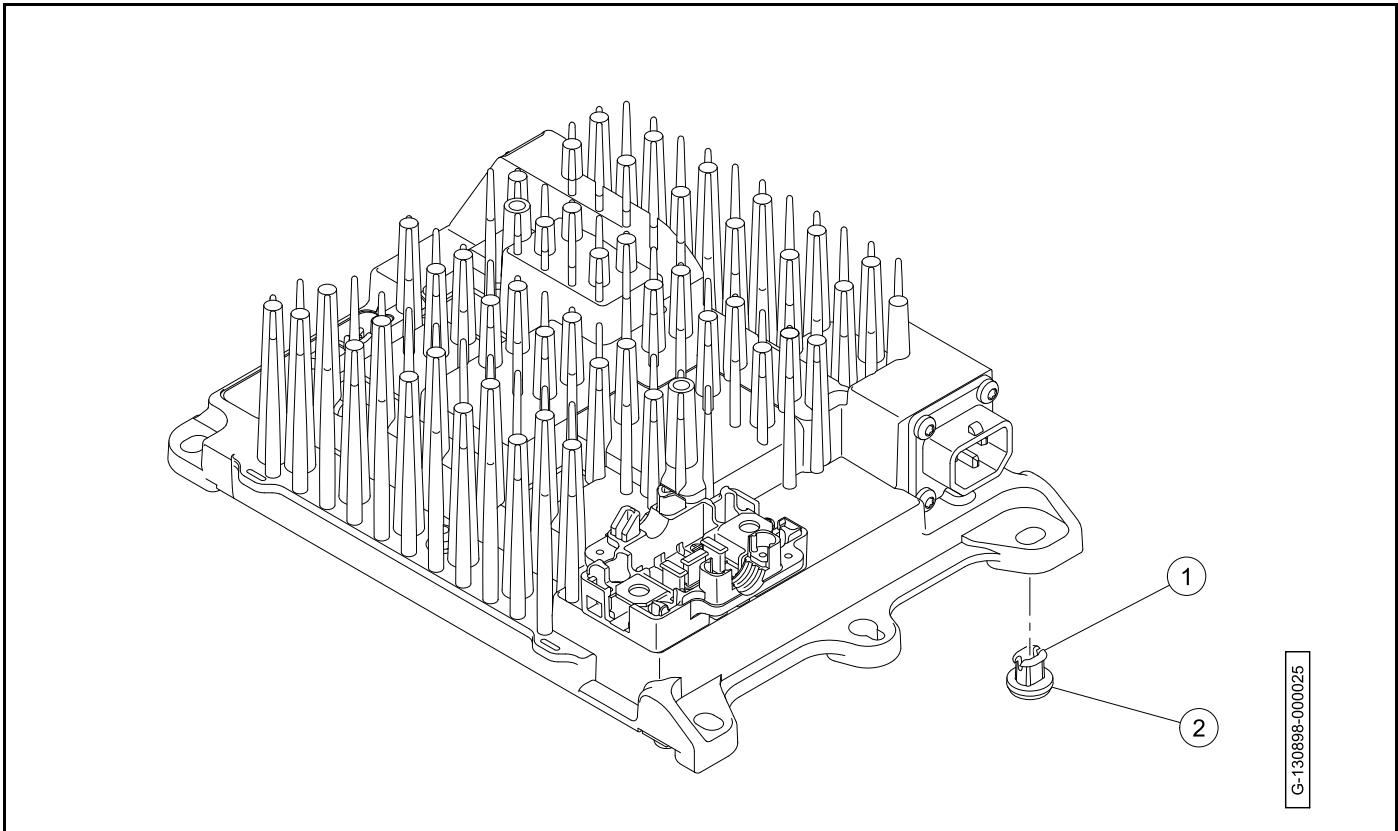

Figure 15-22 Foot
4. Squeeze the barbs (1) on the foot (2) and push the foot out of charger mounting tab (**Figure 15-22, Page 15-36**).
1. Push the foot (2) into hole in charger mounting tab until the barbs (1) come through and secure foot in place (**Figure 15-22, Page 15-36**).